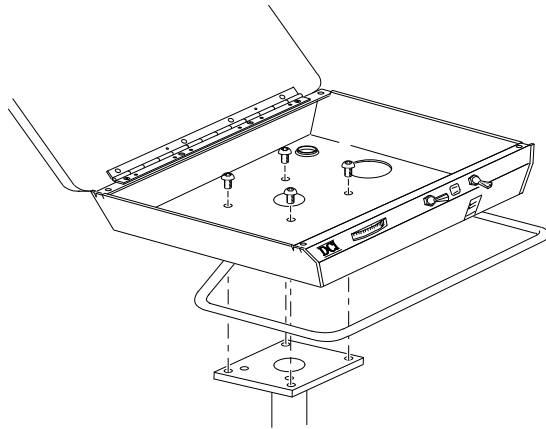

Figure 2
- b. Level the control head and tighten the set screws using a 3/32" hex key. (*Figure 2*)